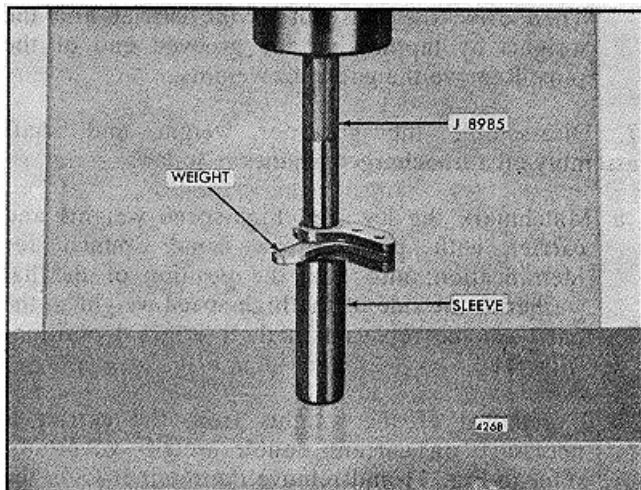

FIG. 14 - Removing governor Weight Bearings using Tool J 8985
- d. Thread a 5/16"-24 x 3" bolt into the bearing retaining bolt hole. Support the governor housing on the bed of an arbor press and press the governor weight shaft from the bearing as shown in Fig. 14.
- bearing from the weight, using replacer J 8985 as shown in Fig. 14.